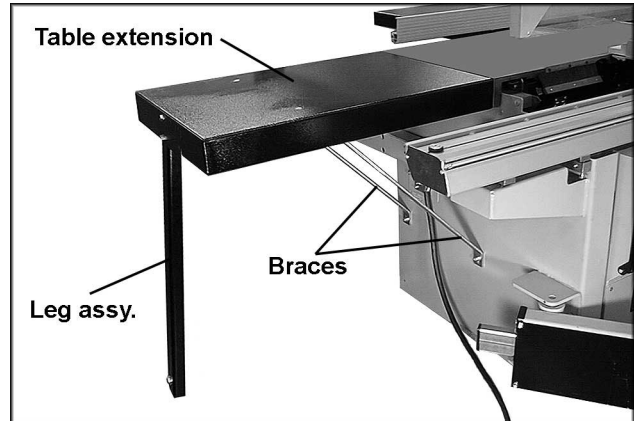

FIGURE 8
3. Mount the left table extension (Fig. 8) with two M8 x 20 cap screws and two M8 flat washers to the cast iron table. Then mount the top of the two braces (Fig. 8) to the table with two M6 flat screws, flat washers and nuts. Mount the bottom of the braces to the stand with two M8 x 20 cap screws and two M8 lock washers. Do not tighten yet.
5. A leg assembly (Fig. 8) is provided for the outer edge of the extension table as shown. The bottom end of the leg is adjustable for leveling.